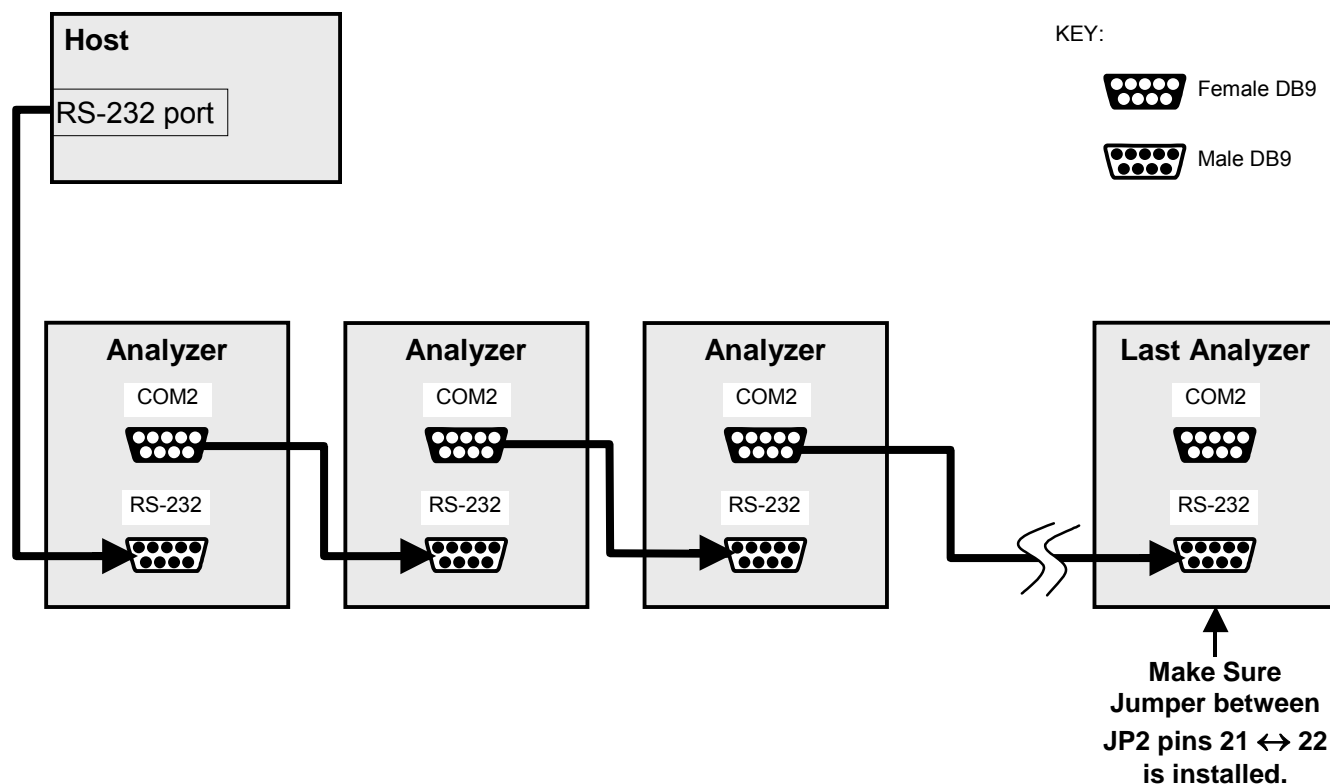

Figure 6-14: RS232-Multidrop PCA Host/Analyzer Interconnect Diagram
10. Using straight-through, DB9 male → DB9 Female cables interconnect the host and the analyzers as shown in Figure 6-14.